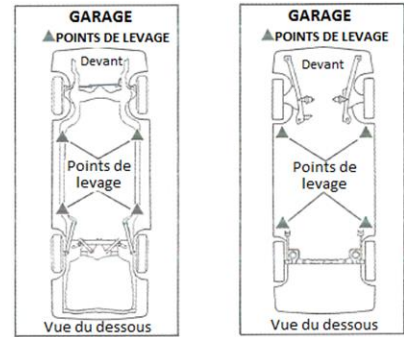

FIGURE 18 : DESSINS D'ÉTIQUETTES TYPIQUES SEA J2184
LES POINTS DE LEVAGE SOUS LE VÉHICULE SONT IDENTIFIABLES SOIT PAR DES TROUS, DES MOTIFS OU DES DÉPRESSIONS AYANT LA FORME D'UN TRIANGLE ÉQUILATÉRAL OU D'UNE PARTIE PROÉMINENTE TELLE QU'UN TAMPON DE LEVAGE EN FORME DE TRIANGLE. SE RÉFÉRER À ALI/LP-GUIDE POUR LA PÉRIODE DES 20 DERNIÈRES ANNÉES. VOIR **FIGURE 18**.
6. ALIGNER LES 4 MAINS DE LEVAGE VIS-À-VIS LES POINTS DE LEVAGE RECOMMANDÉS PAR LE MANUFACTURIER DU VÉHICULE. VOIR **FIGURE 18**.